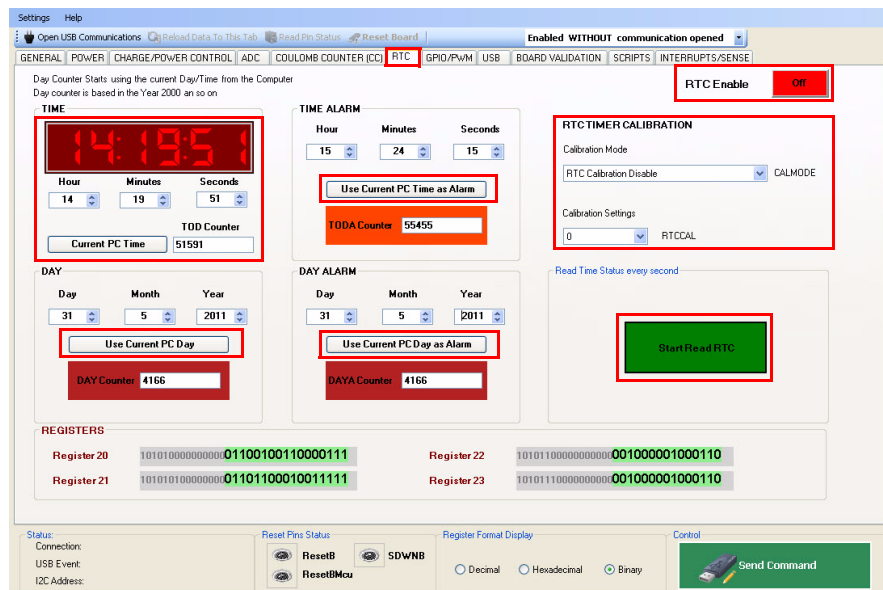

Figure 30. Real Time Clock Configuration Window
2. The digital clock control in Figure 30 shows the current time of the RTC register for MC34708.